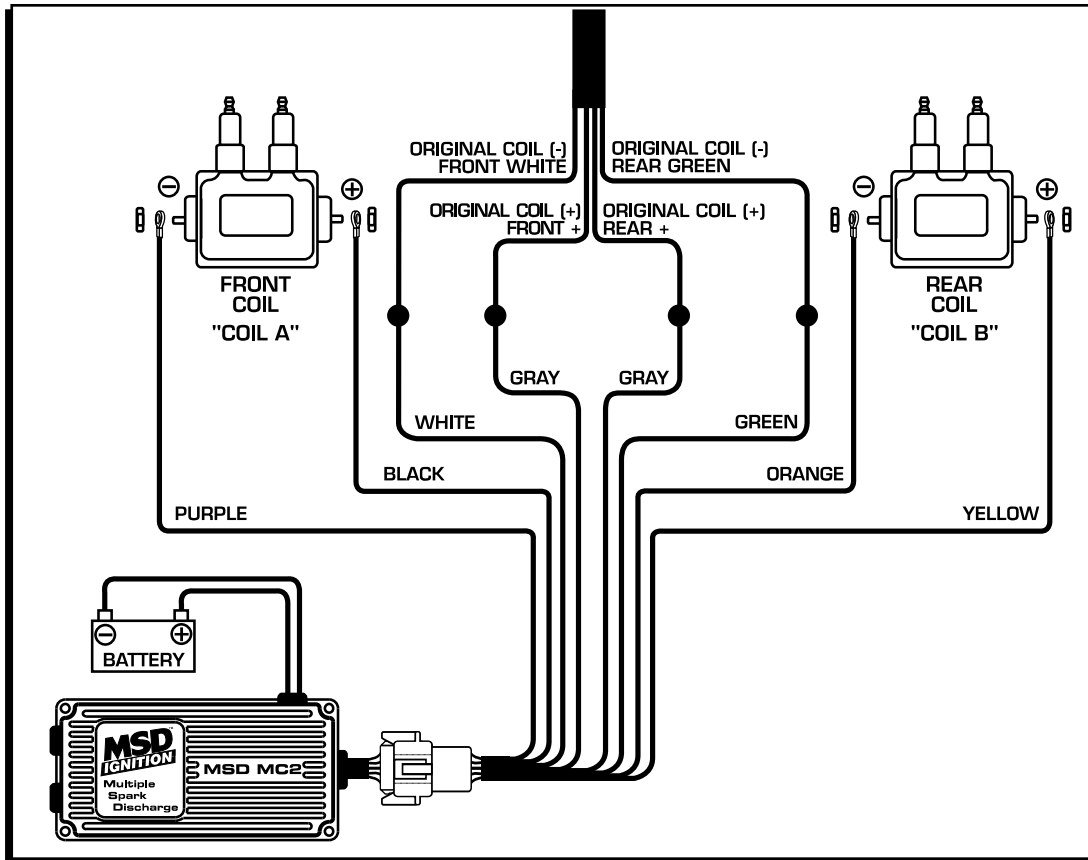

Figure 4 Wiring to a Stock Dual Coil Ignition System.
**Dual Coils:** Attach the front coil's (Coil A) negative wire to the White wire of the MSD and the rear coil (Coil B) negative wire to the Green wire of the MSD (Figure 4).